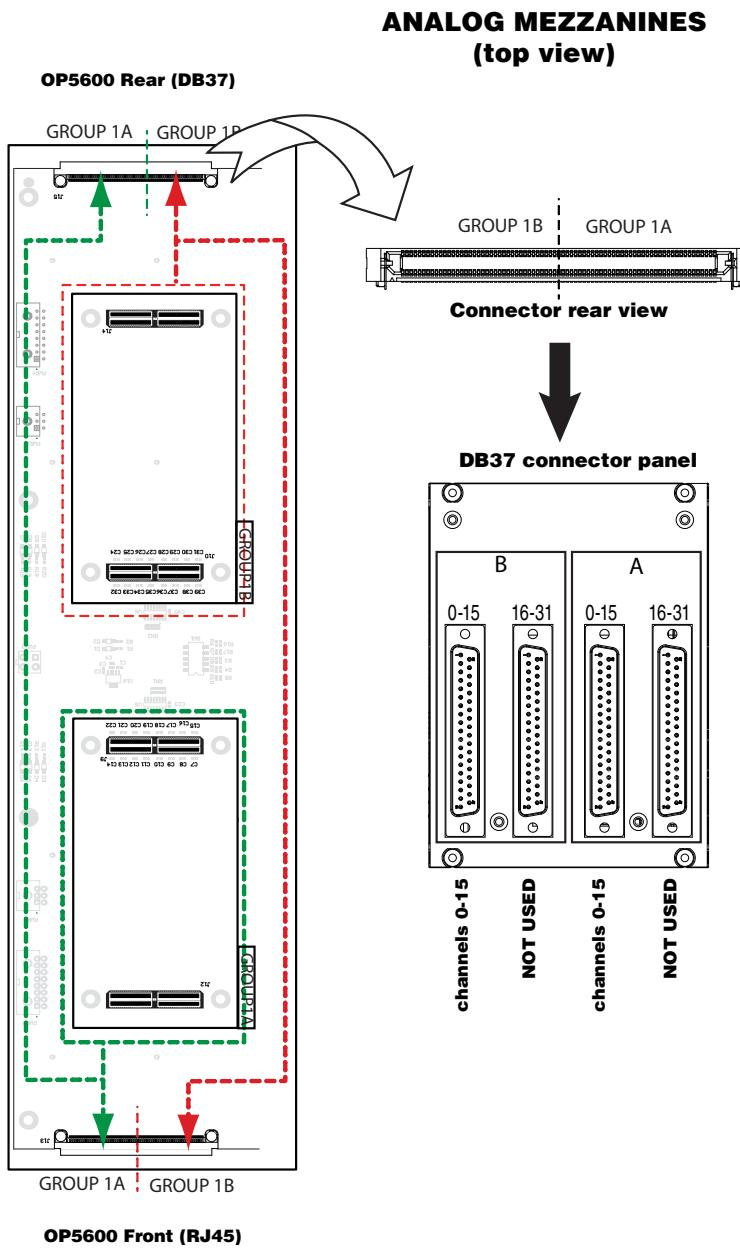

Figure 8: DB37 connection to mezzanines
2. Connect the other end of the RJ45 cable to the monitoring connector (B)
3. Connect a mini-BNC cable to each BNC jack (C) and connect the other end of the cable to the desired monitoring device. The mini-BNC jacks each connect to one of the 4 channels of the RJ45 Connector (A). In the example shown in Figure 8, the RJ45 cable is connected to channels 28-31. The mini-BNC cable jacks, identified as A, B, C, D, represent each channel in the following order;